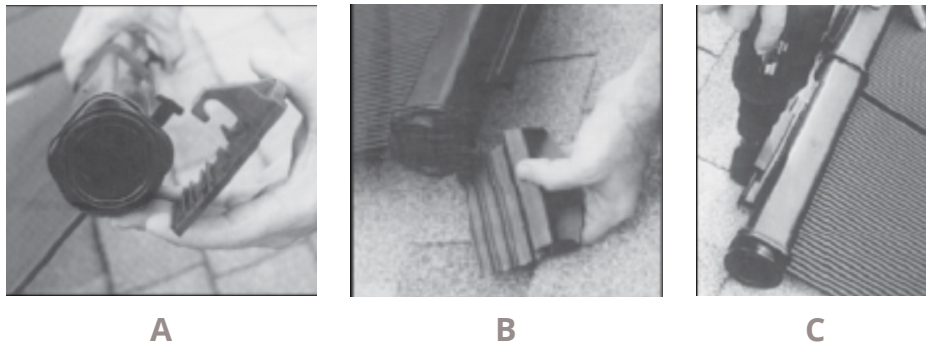

Fig. 5
3. Slide the mounting pad onto the first mounting track (Fig. 5-A) on the manifold and Position it on the chalk line and centered over a roof truss. No matter the truss location a minimum of (2) mounts are required at the top and bottom manifold of each collector (four in total).
4. Subsequent Top Mounting Pads should be spaced out evenly along the chalk line where roof trusses occur. Each top mounting pad must be located over a roof truss and within the middle third of the mounting track on the collector manifold. Be sure to connect collector manifolds together with a Plastic Panel Clamp (PPC) and slide the mounting pad onto the track before mounting (Fig. 5-B). If the mounting location at a truss does not align with the middle third of a mounting track, then use one of the methods described in the section following this one.
- Apply ample sealant to both the bottom and top of the anchor hole on the bottom portion of the Mounting Pad. (Fig. 8.4-A). Position the Mounting Pad perpendicular to the chalk line with the lower hole being placed right on the chalk line. Anchor the Mounting Pad to the roof through the hole using a 1/4" lag bolt (Fig. 5-C). The length of the lag bolt used is based on how much embedment into the truss is required. Typically, this is 2" of embedment but the engineering plans will specify this.